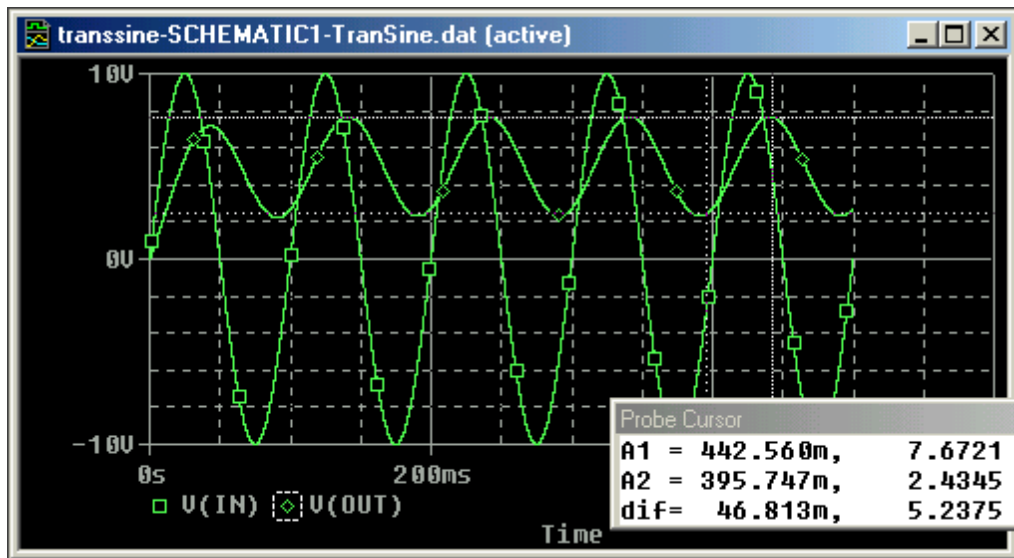

Figure 16: Transient simulation with a sinusoidal input
9. We used the cursors in Figure 18 to find the 3dB point. The value is 6.49 Hz corresponding to a time constant of 25 ms ($R1 \parallel R2.C$). At 10 Hz the attenuation of V_{out} is 11.4db or a factor of 3.72. This corresponds to the value of the amplitude of the output voltage obtained during the transient analysis of Figure 16 above.